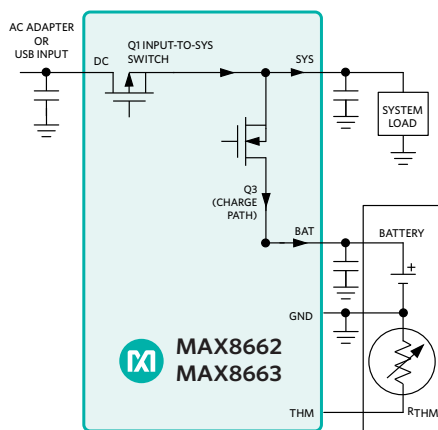

Figure 8. Power Path When $I_{LOAD} < I_{DC}$
- b) When the system load requirements are less than the capacity of the external power input (*Figure 8*), the battery is charged with residual power from the input.